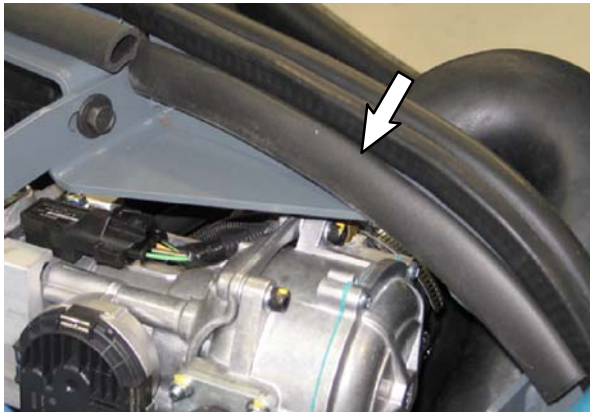

FIG. 51
66. Install a 280 mm (11 in) rubber seal (103) onto the support brace (31). (Fig. 51)